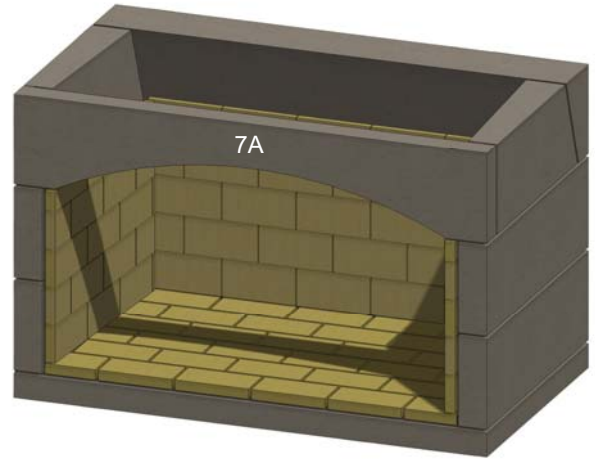

Figure 18. Front Lintel
K. Install the front lintel piece, (7A, for arched lintel, as shown) or (7S, for straight lintel kits). See Figure 18.